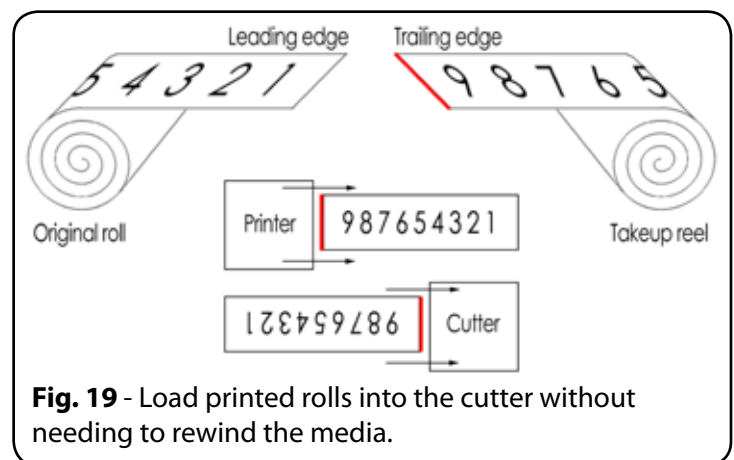

Fig. 19 - Load printed rolls into the cutter without needing to rewind the media.
- **Cut from End of Roll** – For print&cut jobs that use a stand-alone cutter, designate that the entire roll will be printed, and that the printed roll will then be fed into the cutter without rewinding the roll (Fig. 19). Visual Production Manager will process the cut jobs in reverse order, thereby avoiding the need to rewind the roll.